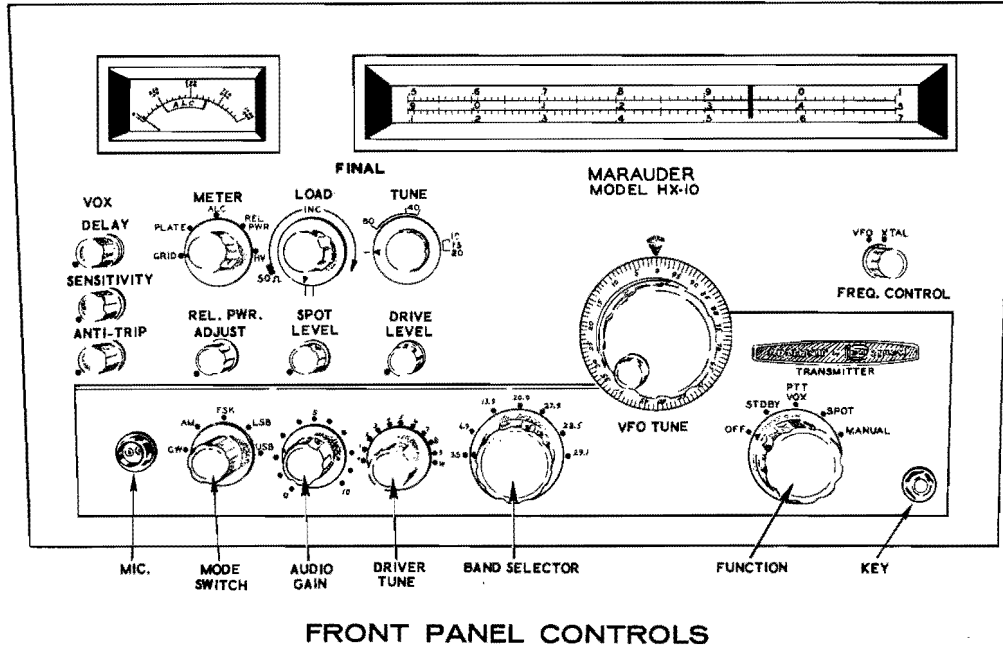

Figure 21
- (X) Place a rubber shock mounting grommet at holes A, B, and C on the shield top plate, as shown. The shock mounting grommets are the larger flat grommets with a small hole in the center.
- (X) Mount the blower motor on the shield top plate as shown. Make sure the motor and plate are positioned to agree with the illustration. The motor will be on the top side of the installed plate with the shaft extending down through hole C. Place a #10 lock-washer, then a #10 thick flat washer on each of the 10-32 x 3/8" phillips head mounting screws and secure the motor on the shock mounts firmly, but not too tightly. Securing the screws too tightly will reduce the effectiveness of the shock mounting.
- (X) Start a 6-32 x 1/4" slotted head setscrew in the hub of the fan.
- (X) Slide the fan on the motor shaft, hub first, and secure with the setscrew, with the end of the motor shaft extending 1/8" from the fan hub.
- (X) Install and secure the shield top plate and fan assembly on the final amplifier compartment. Secure with twelve #6 sheet metal screws. Check for free fan rotation before top plate installation.
- (X) Locate the line cord with the molded plug and cut 11" from the plug end as shown. Strip each lead 3/8" and tin.
- (X) Connect either line cord wire to lug 1 (S-1) and the other wire to lug 2 (S-1) of the blower motor.
- (X) Plug the line cord into AC receptacle CW in the chassis top.
- Refer to Figure 21 for the following steps.
- (X) With the **FREQ CONTROL** set fully counterclockwise, install a 11/16" knob on its shaft with the dot at VFO on the front panel. Use an 8-32 x 1/8" Allen setscrew.
- (X) With the **FUNCTION** switch set fully counterclockwise, install a 1-3/4" knob on its shaft with the arrow at OFF. Use two 8-32 x 1/4" Allen setscrews.
- (X) With the **BAND SELECTOR** set fully counterclockwise, install a 1-3/4" knob on its shaft with the arrow at 3,5. Use two 8-32 x 1/4" Allen setscrews.
- (X) With the **DRIVER TUNE** capacitor set fully meshed, install a 1-1/4" knob on its shaft with the arrow at 0. Use an 8-32 x 1/4" Allen setscrew.
- (X) With the **AUDIO GAIN** control set fully counterclockwise, install a 1-1/4" knob on its shaft with the arrow at 0. Use an 8-32 x 1/4" Allen setscrew.
- (X) With the **MODE** switch fully counterclockwise, install a 1-1/4" knob on its shaft with the arrow at CW. Use an 8-32 x 1/4" Allen setscrew.
- (X) With all **VOX** controls set fully counterclockwise, install 11/16" knobs on each shaft with the dot at the front panel dot. Use 8-32 x 1/8" Allen setscrews in each.
- (X) With the **REL PWR ADJ**, **SPOT LEVEL** and **DRIVE LEVEL** controls set fully counterclockwise, install 11/16" knobs on each shaft with the dot at the front panel dot. Use 8-32 x 1/8" Allen setscrews in each.
- (X) With the **METER** switch set fully counterclockwise, install a 1-1/4" knob on its shaft with the arrow set at GRID. Use an 8-32 x 1/4" Allen setscrew.
- (X) With the **FINAL LOAD** capacitor set fully meshed, install a 1-1/4" knob on its shaft with the arrow positioned at the lower left panel mark. Use an 8-32 x 1/4" Allen setscrew. Check the rotation of this shaft to observe if, in its fully clockwise position, the arrow points to the lower right panel mark. Adjust as necessary.